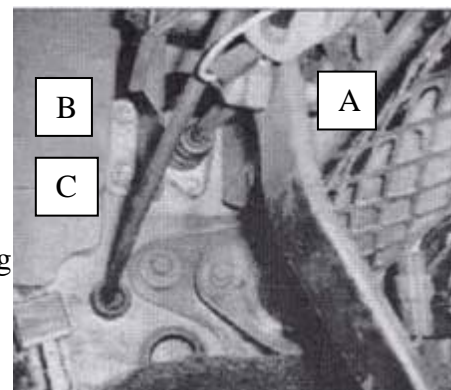

Figure 6
4. Insert pedal linkage through rubber boot so that boot will protrude through the firewall when installed (Figure 6).